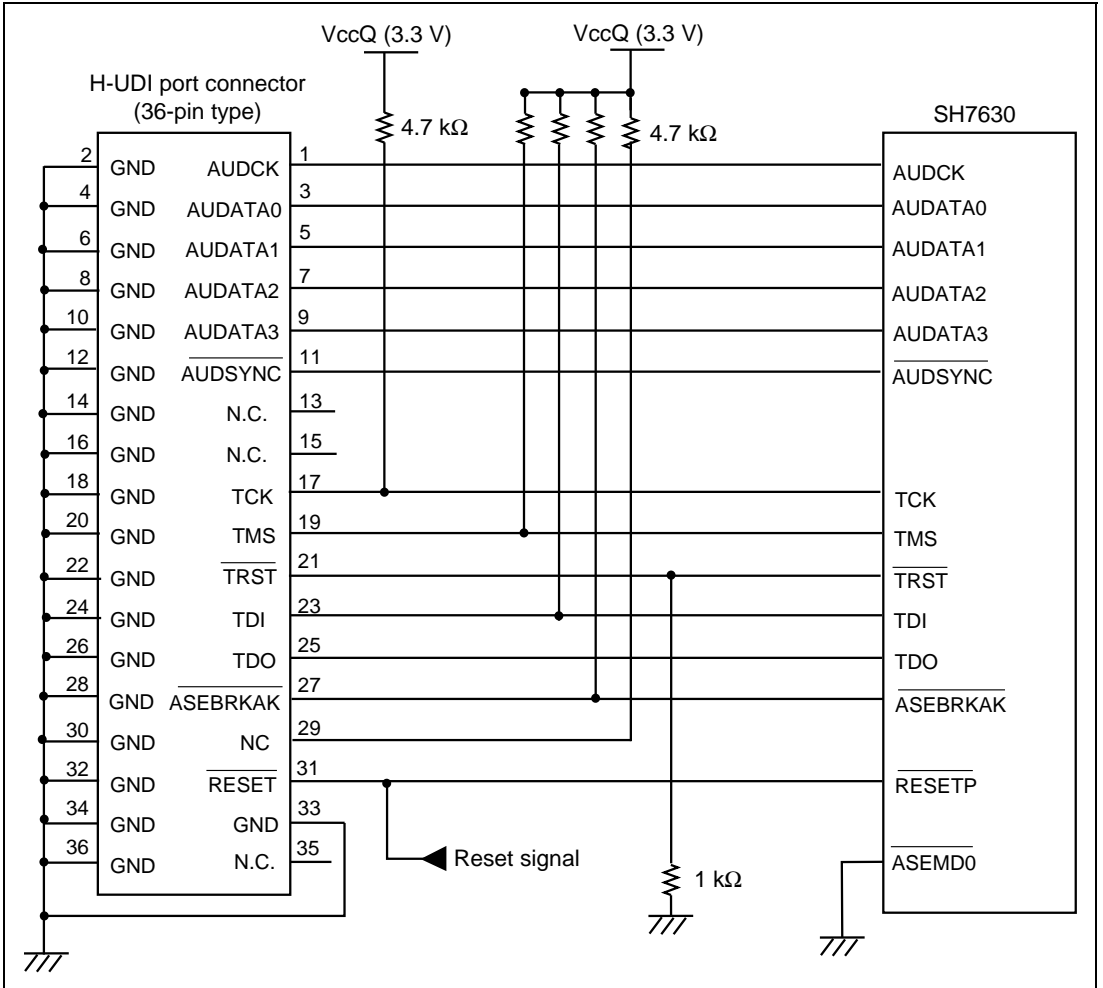

Figure 1.4 Recommended Circuit for Connection between the H-UDI Port Connector and MPU (36-Pin Type)
Figure 1.4 shows a recommended circuit between the H-UDI port connector (36 pins) and the MPU.
- (1) When the emulator is used: /ASEMD0 = low (ASE mode)
- (2) When the emulator is not used: /ASEMD0 = high (normal mode)
7. The resistance values shown in figure 1.4 are recommended.